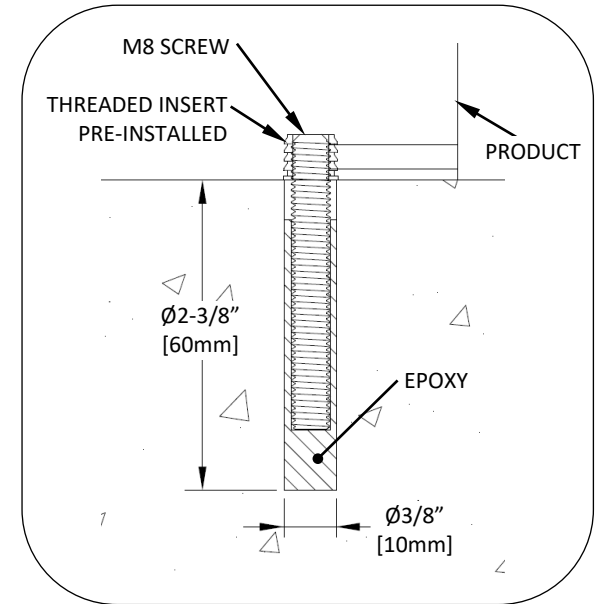

Fig. 3- embedded anchor detail
1. Thread M8 set screws into threaded inserts in bottom of unit. See Fig. 3.